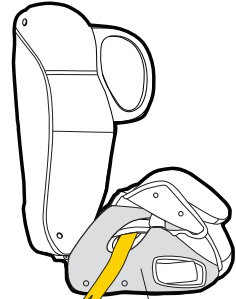

Figure 1.2
- Step 2:** Fold the armrest covers forward to expose the plastic armrests & base (refer Figure 1.2).